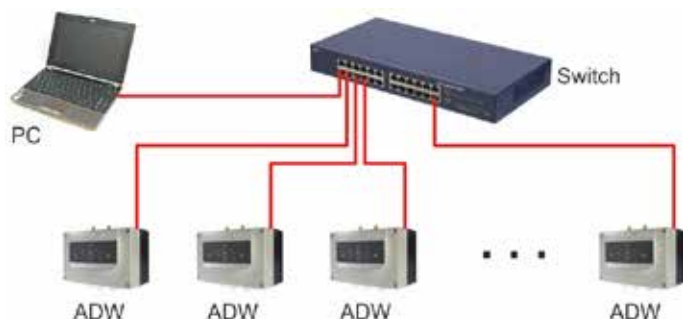

Fig. 41 Design of an Ethernet ADW network
- The maximum length of the lines between subscribers as shown in **Fig. 41** (Switch – ADW / Switch – PC) is 100 m.